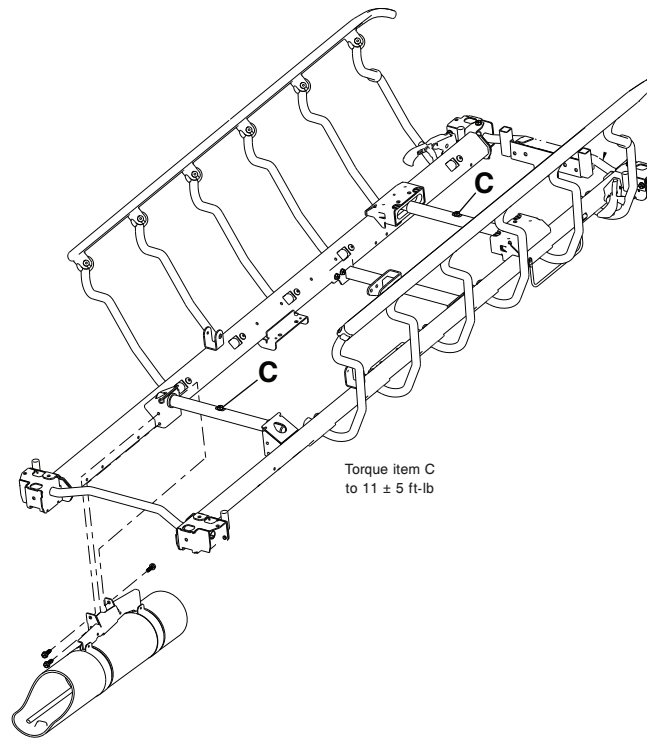

Figure 61 – Litter top removal
11. Using a 1/2" socket with a 3/8" drive ratchet, remove the hex washer head screws (C) that secure the jack support tubes to the jack shafts (Figure 61). Save the screws.